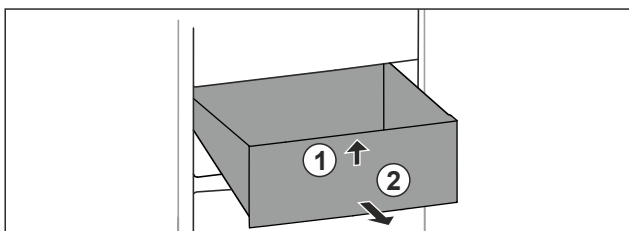

Fig. 115
- Lift up drawer at the front. Fig. 115 (1).
- Remove drawer to the front. Fig. 115 (2).